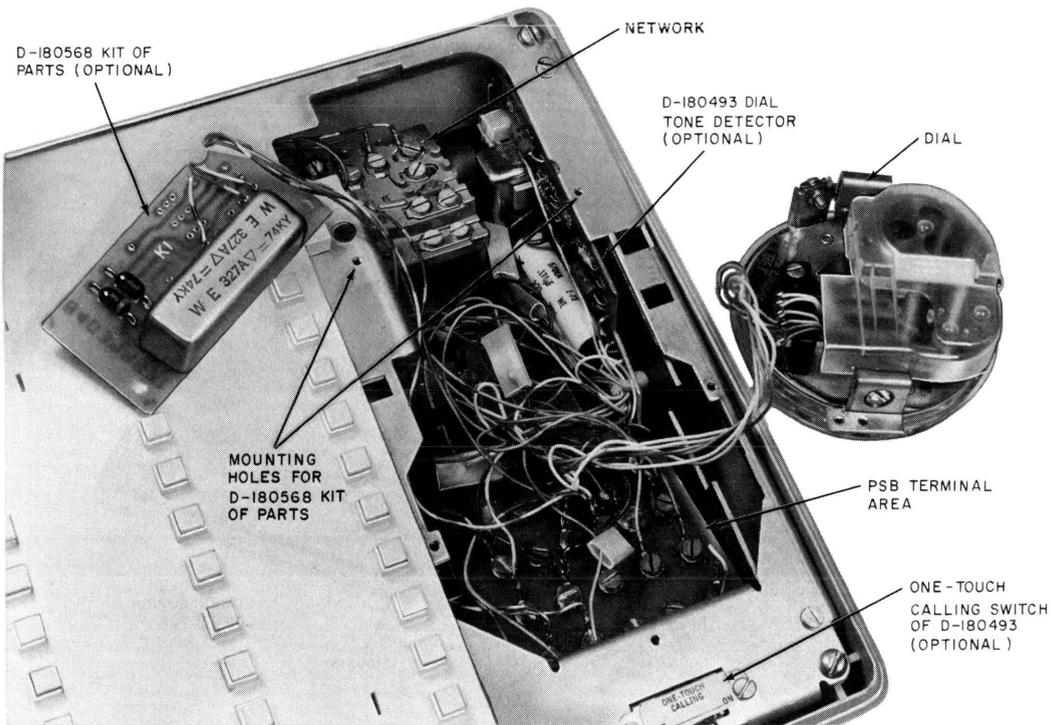

Fig. 4—Telephone Set—Dial Removed to Show Terminal Area
- (1) Proceed as described in 3.17.
- (2) Make connections per appropriate Table B, C, D, or E.
- (3) Mount the kit assembly to the chassis with the screws provided (Fig. 4). Beveled corner of the printed wiring board (PWB) should be at lower right corner.
- (1) Remove the housing (3.20), and access PSB terminal board (3.17).
- (2) Insert the board assembly from the back of the set and locate as shown in Fig. 4, such that the two tabs on the board assembly fit into the slots in the chassis.